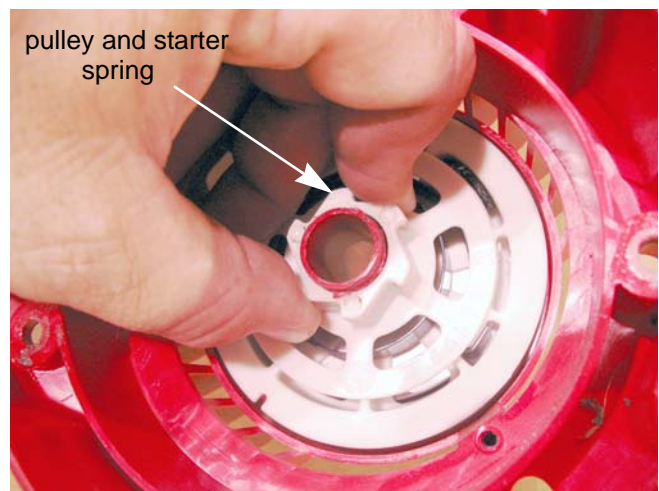

Figure 6.4
5. Carefully remove the pulley and starter assist (accumulator) spring. See Figure 6.4.